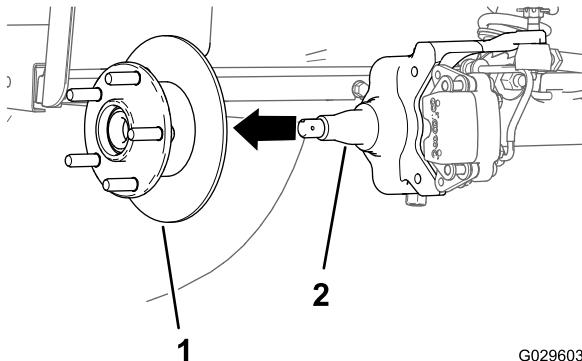

Figure 33
6. Remove the spindle nut from the spindle, and separate the hub and rotor assembly from the spindle (Figure 32 and Figure 33).